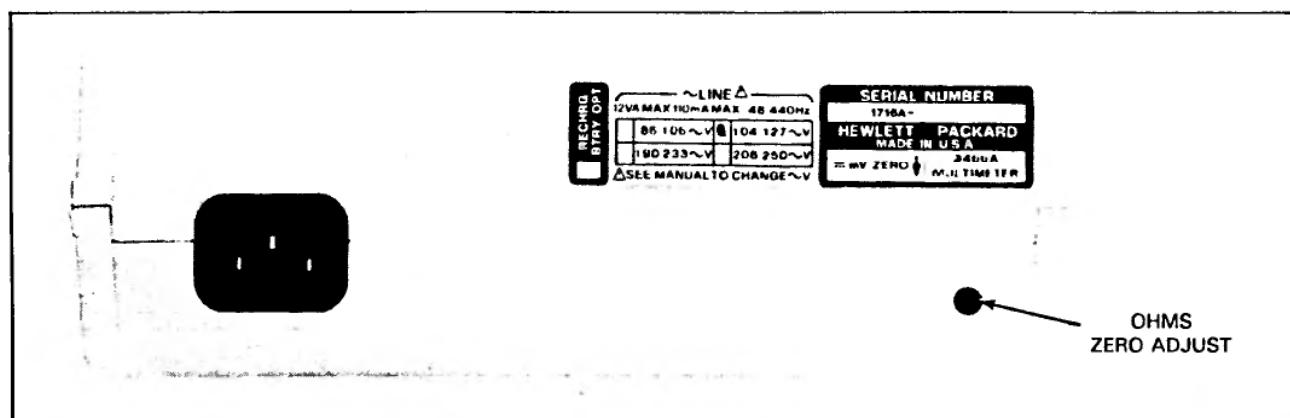

Figure 3-14. Option Decal and Ohms Zero Adjust
- Adjust the ohms zero potentiometer (see Figure 3-14 for the potentiometer location) for a 0.000 reading on the display.
3-40. The option decal is affixed to the rear of the Multimeter. An example is shown in Figure 3-14.
- Use a small flat blade screwdriver to adjust the 20mV ZERO ADJ on the rear panel (see Figure 3-14) for a 0.000mV reading on the display.